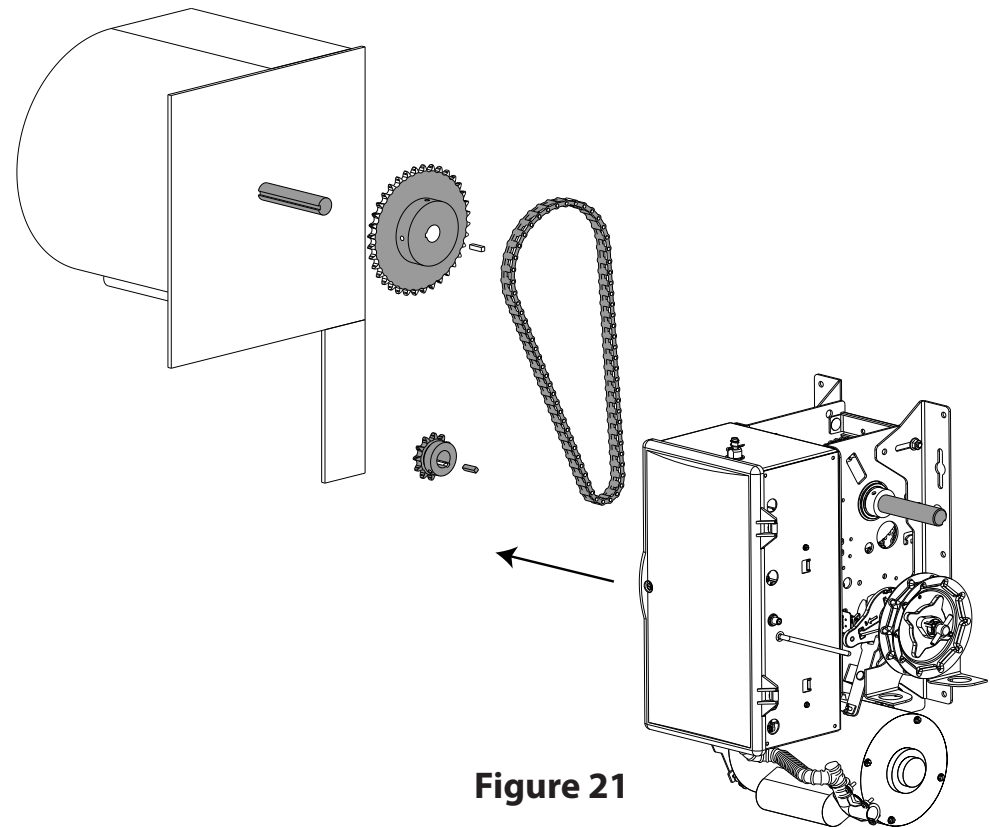

Figure 21
- Hang operator to wall on adjustable mounting holes/hardware. See Figure 21